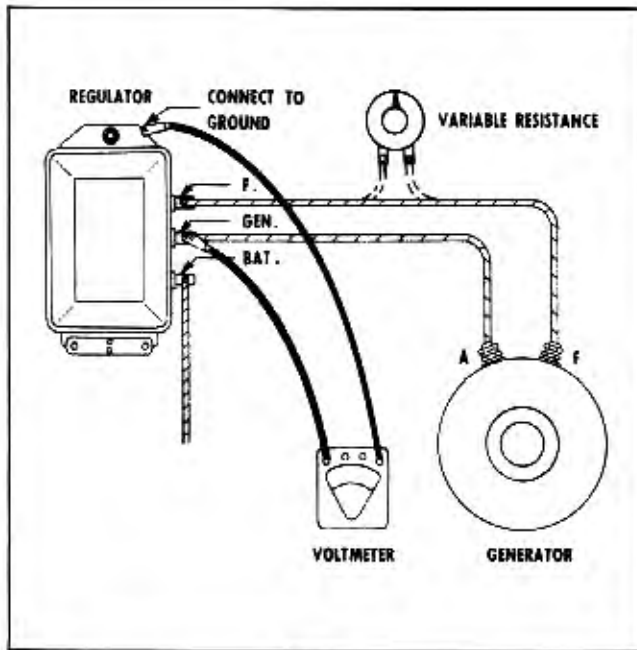

Fig. 12-12 Connections for Checking Closing Voltage
1. Connect a voltmeter between the regulator "GEN" terminal and ground (Fig. 12-12).